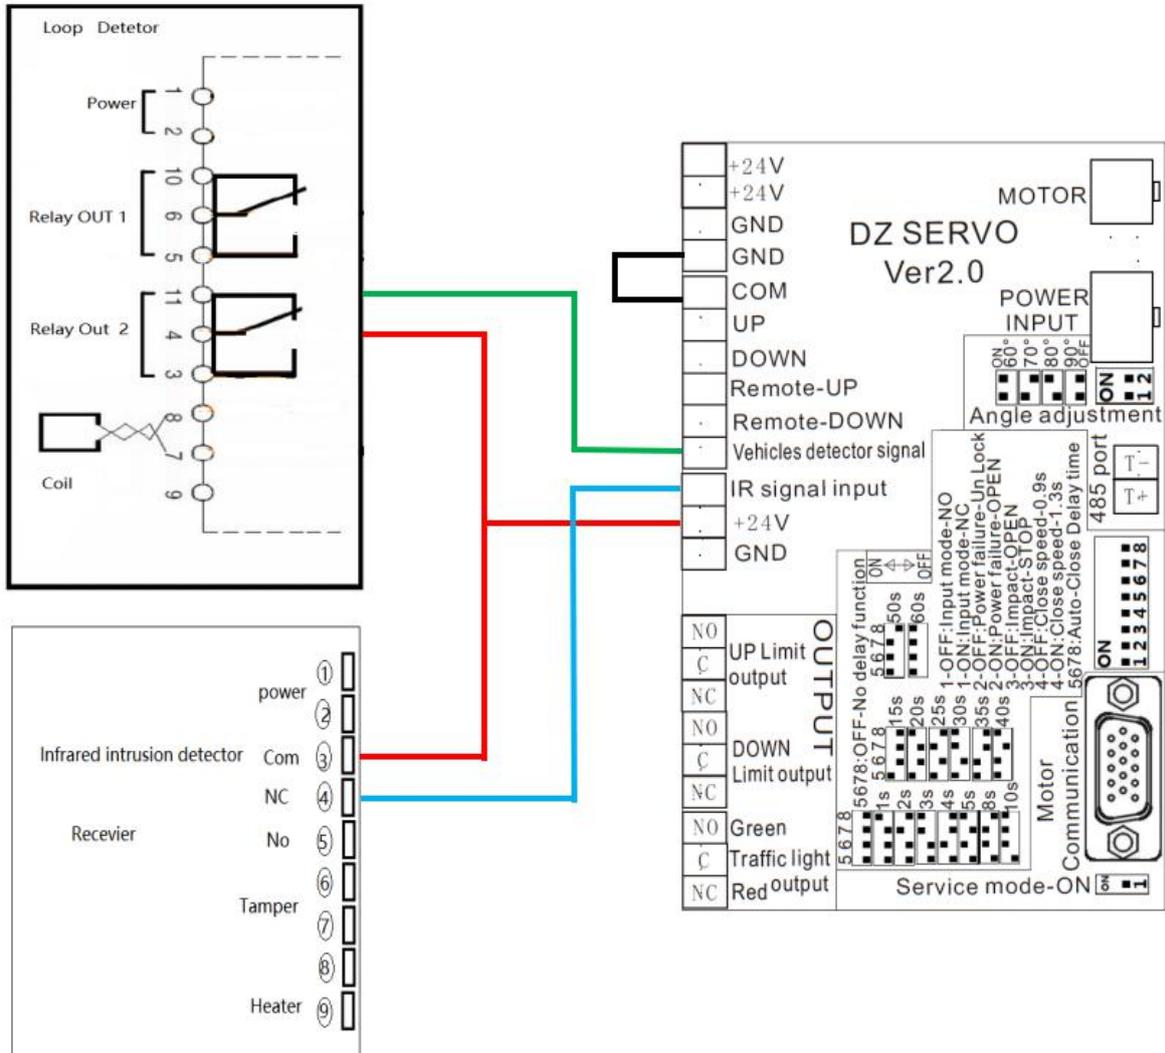

Figure 4-4
5. When the Loop detector and the IR be used at same time. The wiring diagram is shown in the figure 4-4.